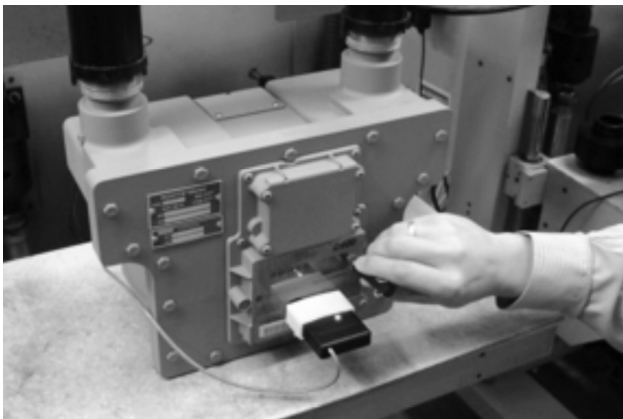

Figure 1.13 Example - Light on IrDA cable indicates connection is established
2. Place the meter into the Compensated Prove mode. (Refer to Section 1.2 for information assistance.) Once the meter goes into prove mode the red light will switch from a flashing red light to a solid red light as shown in Figure 1.13 Example. Now the meter test will start.